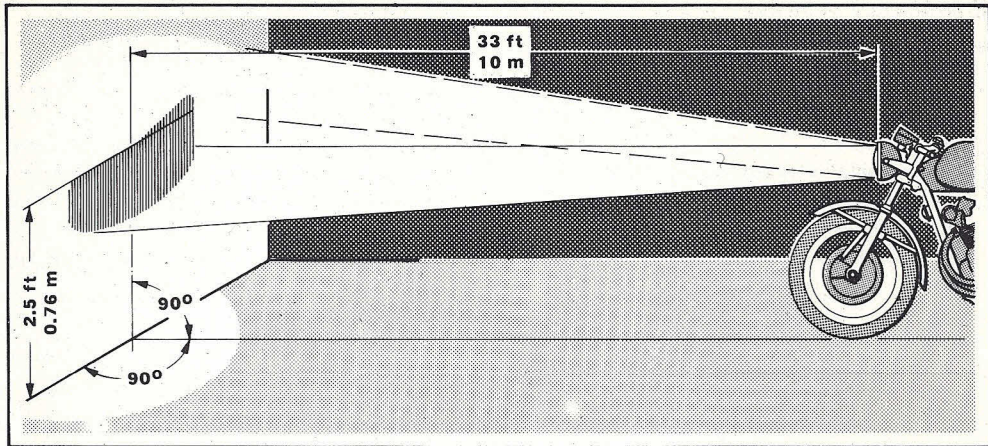

Figure 3-22. Headlight adjustment
(See figure 3-22)
- b. Have the wheels well aligned and, observing the conditions shown in figure 3-22, switch on the driving beam and adjust it horizontally and vertically.
- c. Switch on passing beam and adjust the beam upper edge to the height shown in figure 3-22.